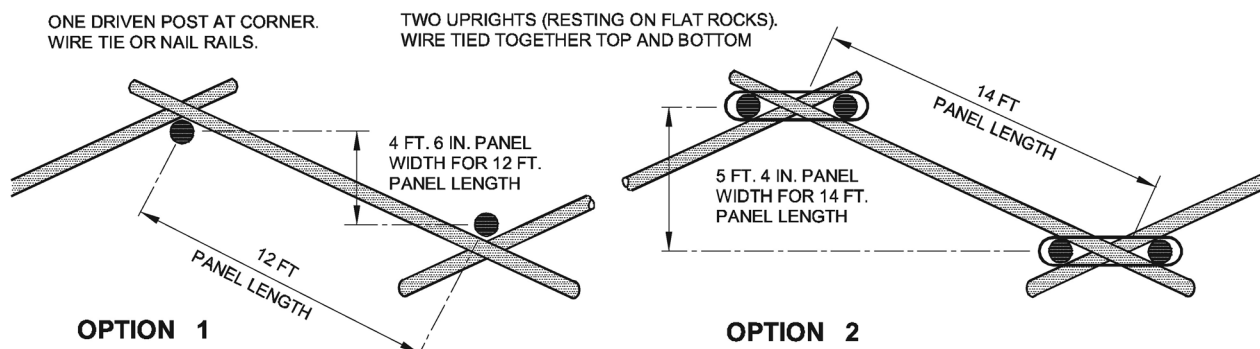

Figure 3 Reduced Panel Width Snake Rail Fences
* Panel width = panel length ÷ 2 (i.e., 12 ft panel length: $12 \div 2 = 6$ ft panel width). Or refer to Figure 3, below.